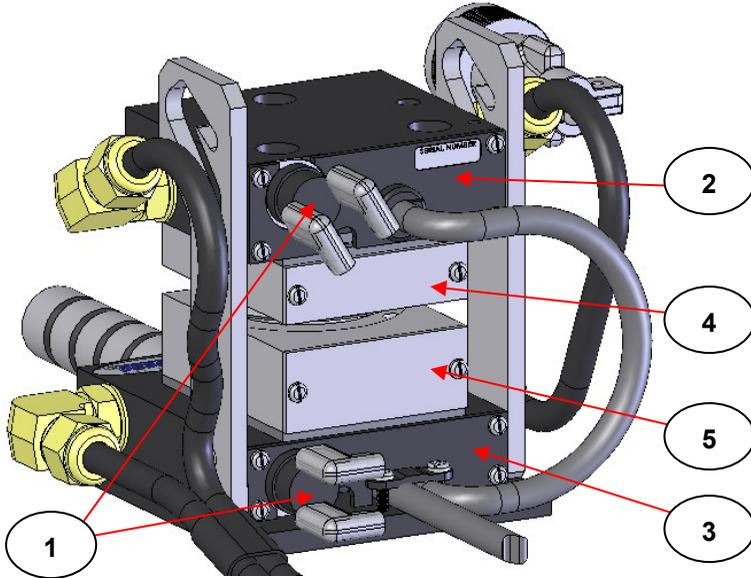

Fig 1. Thermal Safety Cut-Off Switches on the High Temperature Film Maker Accessory
The Atlas™ High Temperature Film Maker Accessory incorporates thermal safety cut-off switches (1). These have been fitted to the top (2) and lower (3) water cooling block parts of the top (4) and lower (5) heated pressing assemblies at the rear of the unit. (See Fig 1.)